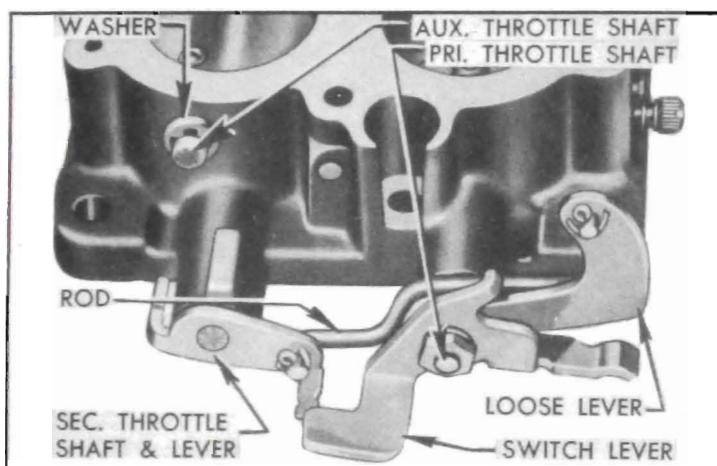

Figure 3-92—Throttle Shaft Levers and Control Rod
1. Install primary throttle lever and shaft assembly in throttle body, then install throttle control loose lever, switch lever, lockwasher, and nut as shown in figure 3-92.
2. Install secondary throttle shaft in throttle body, connect control rod to lever and install cotter pin. See figure 3-92.